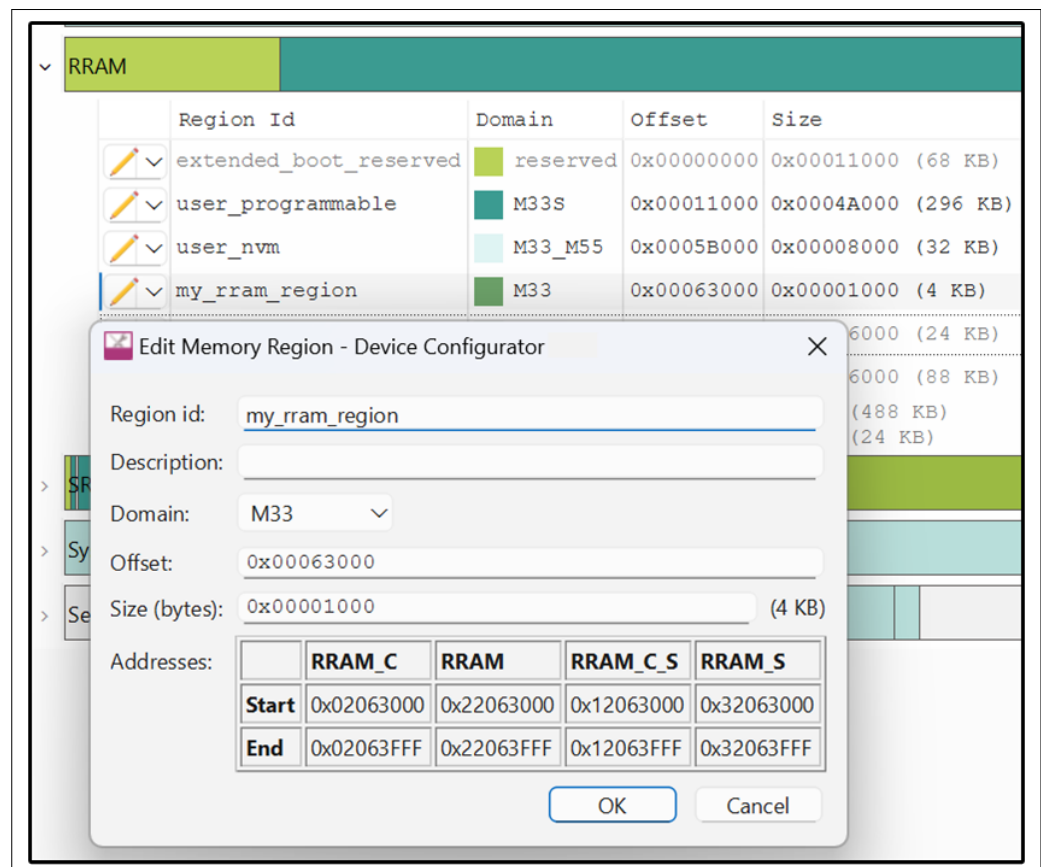

Figure 8 RRAM memory placement
- b. Open ModusToolbox™ Device Configurator, and select the 'Memory' tab. Under the RRAM memory section, create a new region my_rram_region. Select the Domain as M33 and enter the desired offset and size as illustrated in Figure 8.